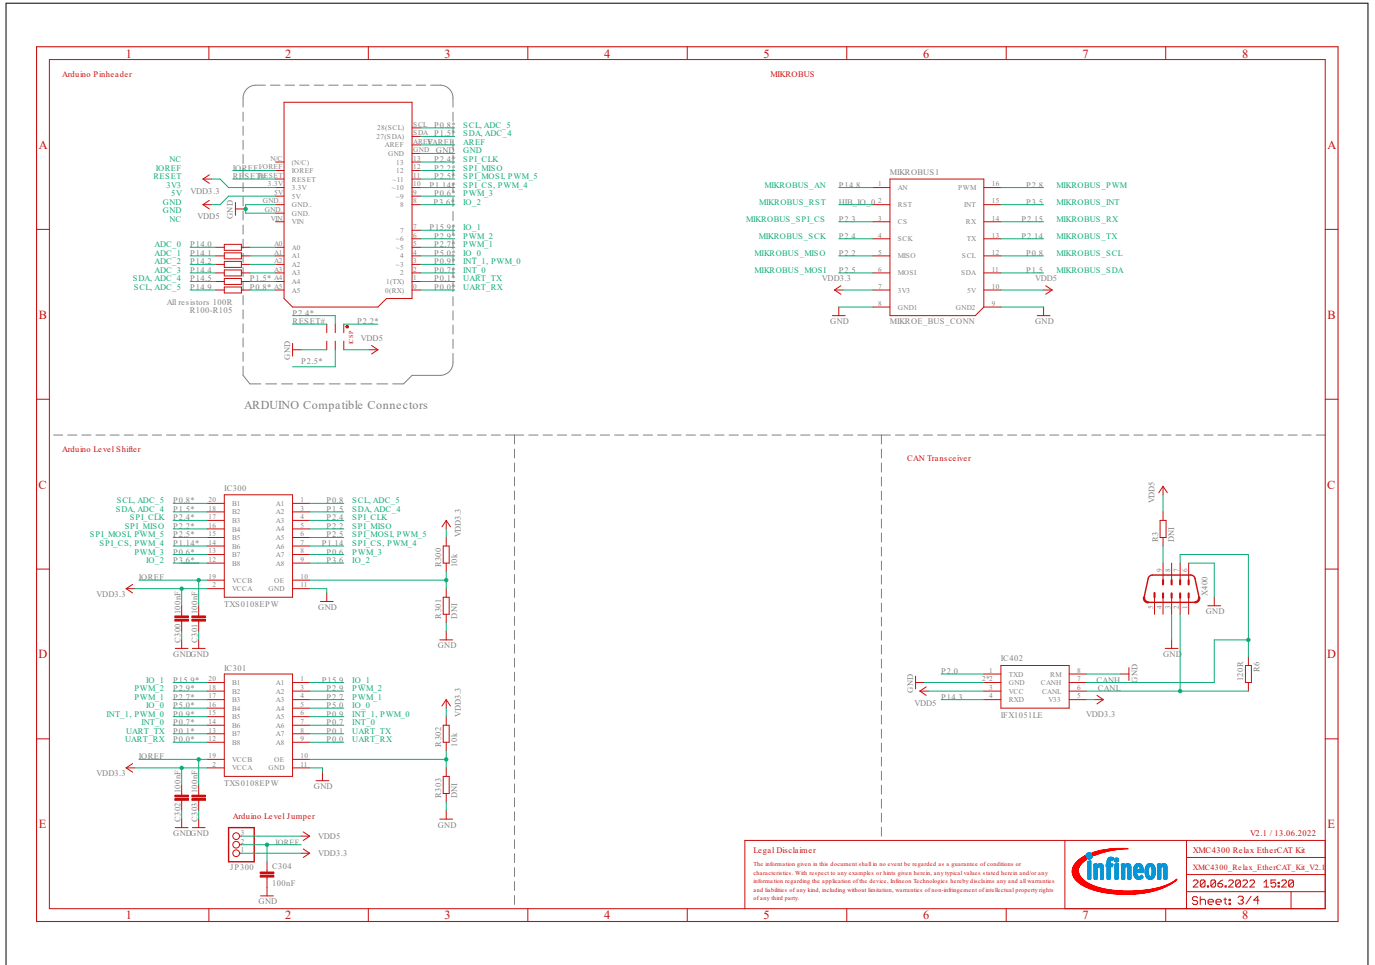

Figure 17 Arduino, mikroBUS, CAN (See Revision 1.2)
- Figure 17 (See Revision 1.2)